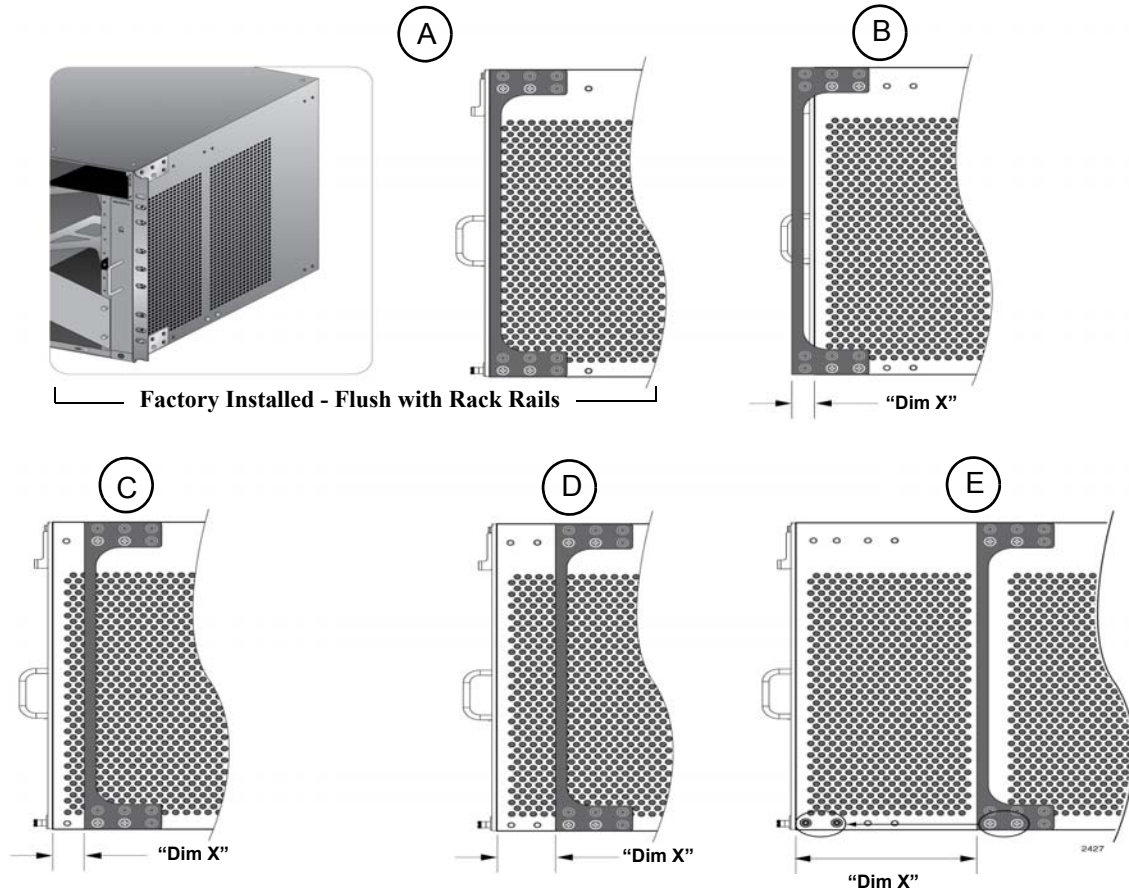
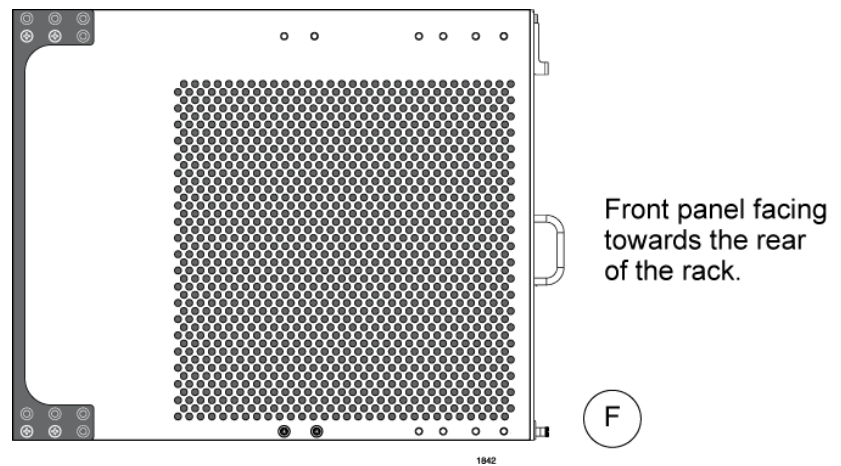

Figure 33. Rack Mounting Bracket Locations
Figure 34. Rack Bracket Locations for Reverse Position of Chassis
The different bracket positions are listed in Table 20 and illustrated in Figure 33 on page 79 and Figure 34 on page 79. Please review the following information before moving the brackets:
- ❑ To install the rack mount brackets in position “E,” you have to remove the two chassis screws from the bottom-middle section of the chassis and re-install them in front where the rack mount bracket screws were originally, as shown in Figure 33 on page 79.
- ❑ The dimension (X) between the front panel and the rack rails is given for each rack mounting bracket position in Table 20.